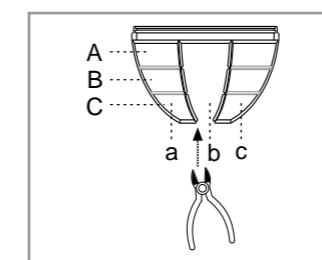
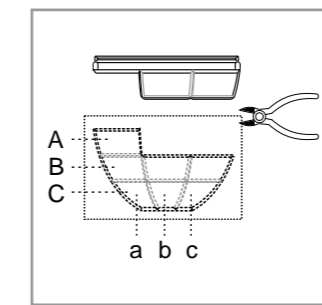

FIG.20
FIG.21
- 4.3.1 SL01, SL02 has two pieces of lens shields, and SL03 has three pieces of lens shield. Lens shield consists of three layers, each layer is divided into 3 small units, and the unit can mask an angle of approx. 30°, when mounting the detector at the height of 2.5M, the outer coverage is: Layer C eliminated: mask the zone with a sector about from 0.5M to 4.5M. Layer B eliminated: mask the zone with a sector about from 0.5M to 7M. Layer A eliminated: mask the zone with a sector about from 0.5M to 10M. The inner coverage is a circular with radius of 0.5M (See FIG.21). Separate lens shield can be eliminated to fit user's desired detection area (See FIG.19 & FIG.20 & FIG.21).